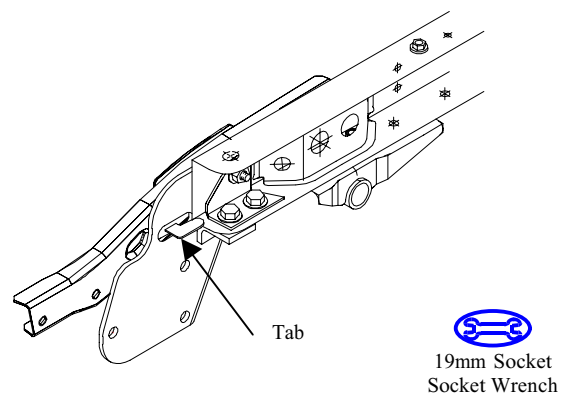

Fig. E2
- i. Align the receiver bracket to allow for bumper mounting tab to pass through the receiver-mounting bracket. (Fig. E2)
- i. Make sure both brackets are secure and flush with vehicle frame. (Fig. E2)
-  5. Hand start two (2) M12 bolts (C1, D1) and M12 nuts (C2, D2), provided in hardware kit, into the two mounting locations on the lower side of the frame until frame reinforcement bracket is flush with frame. (Fig. E2)